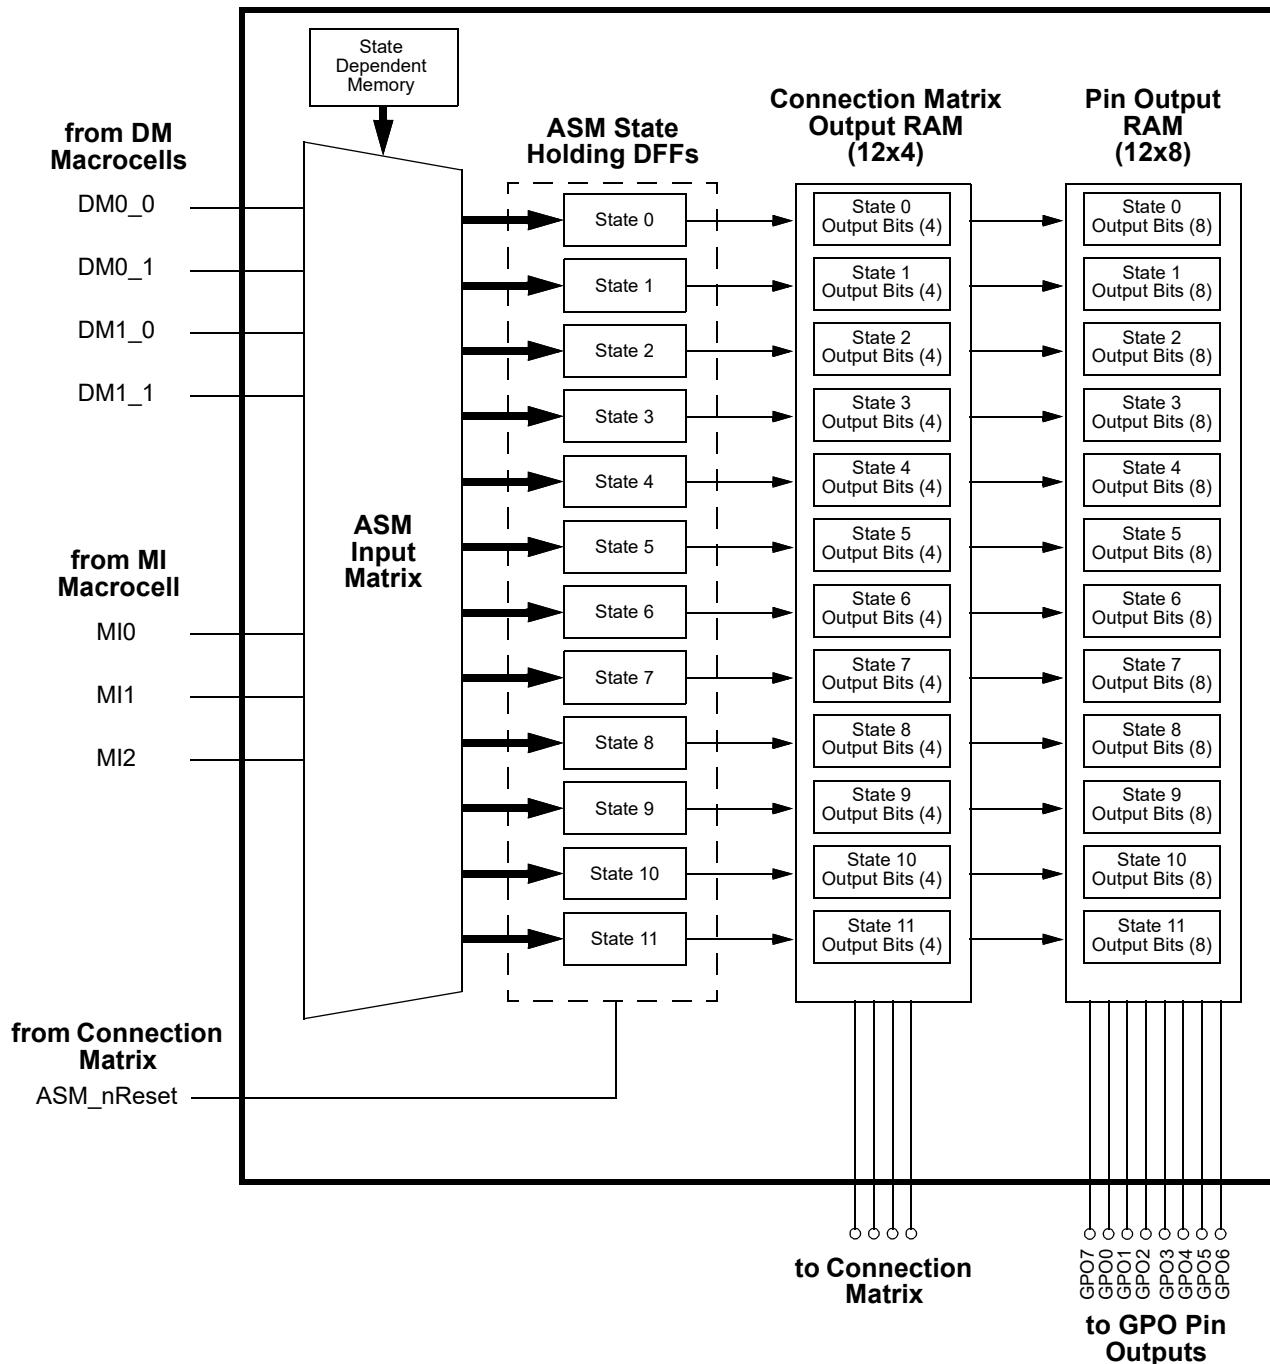

Figure 116: 12 State ASM Macrocell
The ASM macrocell has a total of 8 input signal lines, as shown in Figure 116, which come from a combination of three Matrix Interface (MI) macrocell outputs and DM macrocell outputs. Of these 8 inputs, 3 are user selectable inputs coming from the three Matrix Interface (MI) macrocells (one per macrocell) to the ASM macrocell. There are also 4 inputs that come from the DMx_X macrocells (one per macrocell). There is 1 ASM_nReset input that is for driving a state transition in the ASM macrocell to a user defined Initial/Reset state.
The GPAK Designer development tools support user designs for the ASM macrocell at both the physical level and logic level. Figure 116 is a representation of the user design at the logical level, and Figure 116 shows the physical resources inside the various macrocells in the ASM Subsystem. To best utilize this subsystem, the user must develop a logical representation of their desired state machine, as well as a physical mapping of the input and outputs required for the desired functionality.
The ASM macrocell has a total of 8 input signal lines, as shown in Figure 116, which come from a combination of Connection Matrix outputs and DM macrocell outputs.